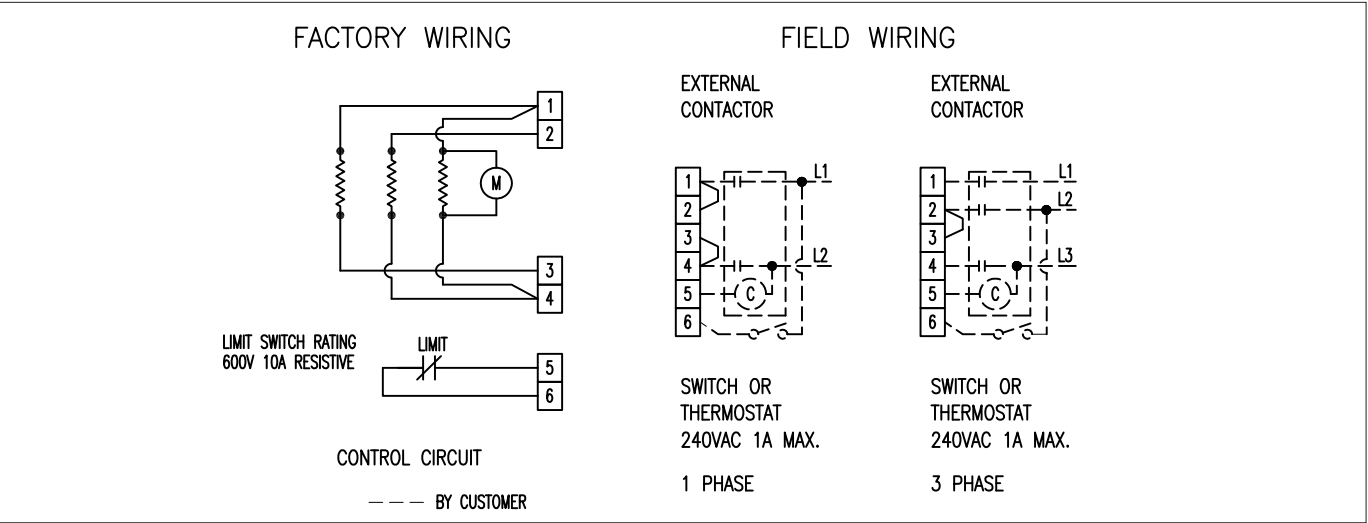

Figure 3E - GE Series 15–30 kW wiring schematic with hi-limit option. 208–600V models.
- 5. Models without a built-in contactor should have the limit switch wired in the control circuit of an external contactor, and for three phase supply, this control circuit should be connected to L2 and L3 which feed the centre heating element, refer to Figure 3E, page 7. The limit switch is rated 600 volts, 10 amps resistive.